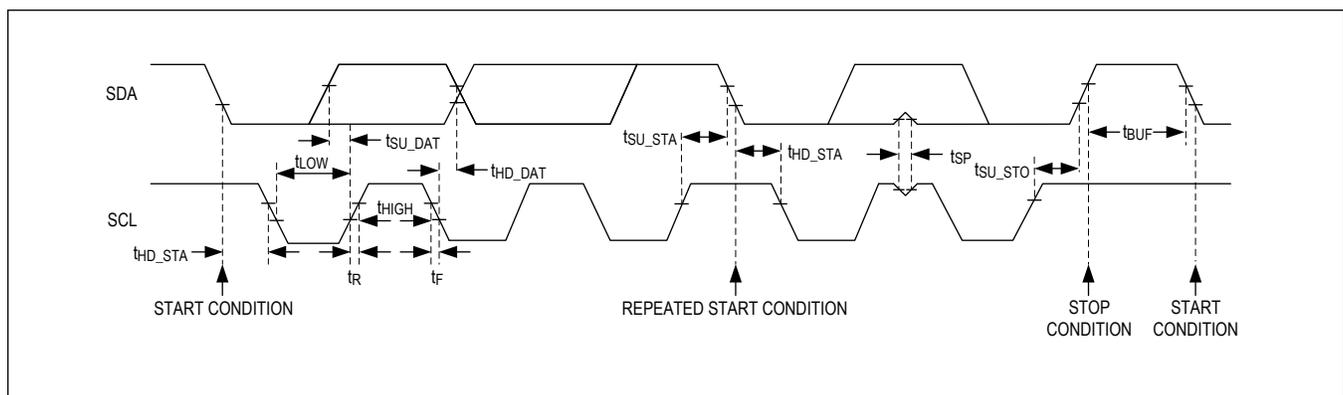

Figure 11. Detailed I²C Timing Diagram
The MAX30210 features an I²C/SMBus-compatible, 2-wire serial interface consisting of an SDA and SCL. The SDA and SCL facilitate communication between the MAX30210 and the controller at clock rates up to 400kHz. Figure 11 shows the 2-wire interface timing diagram. The controller generates SCL and initiates data transfer on the bus. The controller device writes data to the MAX30210 by transmitting the proper target address followed by the register address and then the data word. Each transmit sequence is framed by a START (S) or REPEATED START (Sr) condition and a STOP (P) condition. Each word transmitted to the MAX30210 is 8-bit long and is followed by an acknowledge clock pulse. A controller reading data from the MAX30210 transmits the proper target address followed by a series of nine SCL pulses. The MAX30210 transmits data on SDA in sync with the controller-generated SCL pulses. The controller acknowledges receipt of each byte of data. Each read sequence is framed by a START (S) or REPEATED START (Sr) condition, a not acknowledge, and a STOP (P) condition. The SDA operates as both an input and an open-drain output. A pullup resistor is required on SDA. The SCL operates only as an input. A pullup resistor is required on SCL if there are multiple controllers on the bus, or if the single controller has an open-drain SCL output. Series resistors in line with SDA and SCL are optional. Series resistors protect the digital inputs of the MAX30210 from high voltage spikes on the bus lines and minimize crosstalk and undershoot of the bus signals.
The detailed timing diagram is shown in Figure 11.